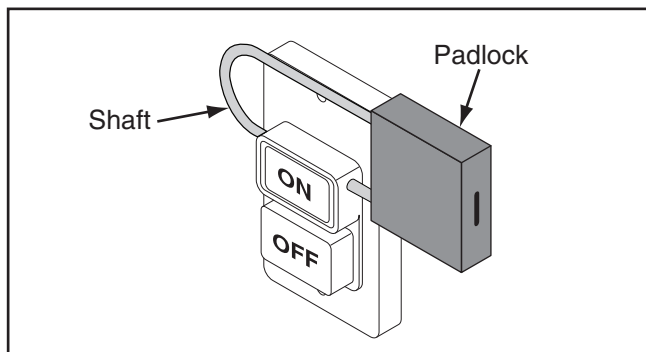

Figure 27. Switch disabling padlock inserted into ON button.
5. Insert the switch disabling padlock through the green ON button, as shown in **Figure 27**.